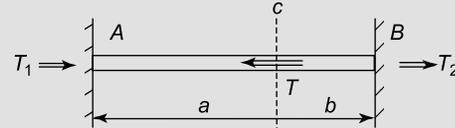

Figure 11.5
**Problem 4.** A shaft of uniform circular section is fixed at its ends and it is subjected to an intermediate torque  $T$ , as shown in Figure 11.5, where  $a > b$ . Determine the maximum resulting torque acting on the shaft and then draw the torque diagram.
From equilibrium considerations, (see Figure 11.5), clockwise torque = the sum of the anticlockwise torques